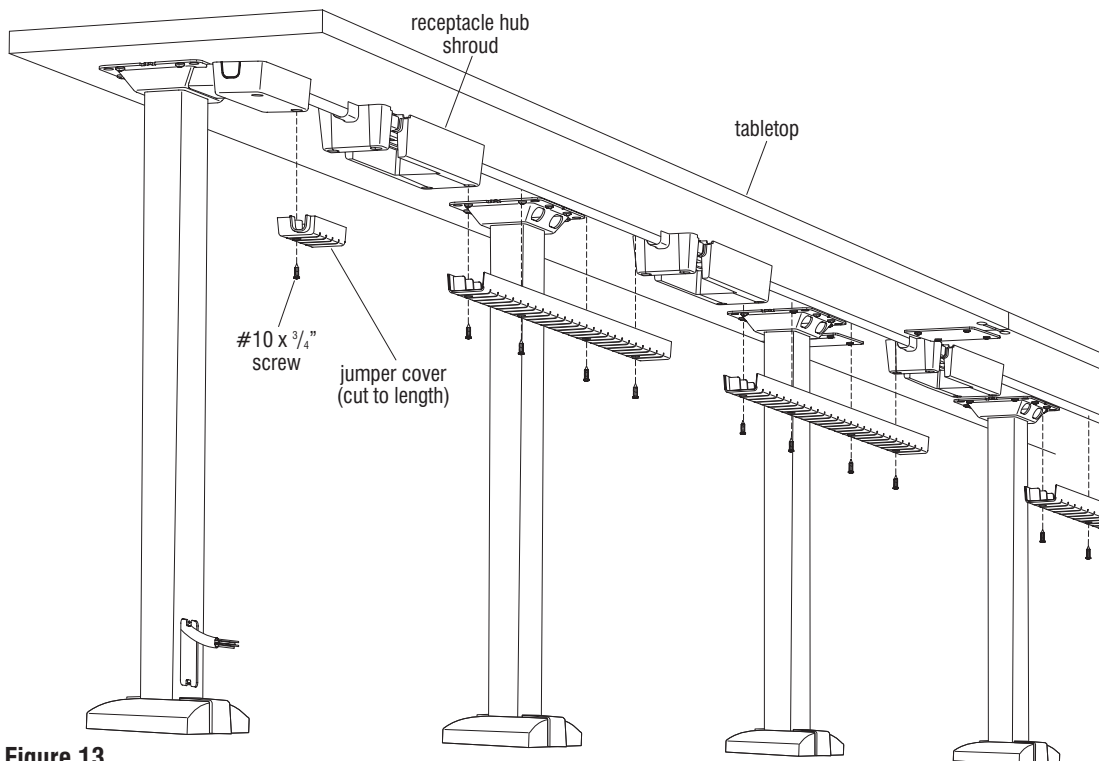

Figure 13
27. Position the correctly sized cover up between the receptacle hub and/or power infeed shrouds, centered over the receptacle jumper. At mounting hole locations along the length of the jumper cover, insert #10 x  $\frac{3}{4}$ " screws and secure the cover to the underside of the tabletop. Do not over-tighten, torque the screws to 25 in/lb (Figure 13).